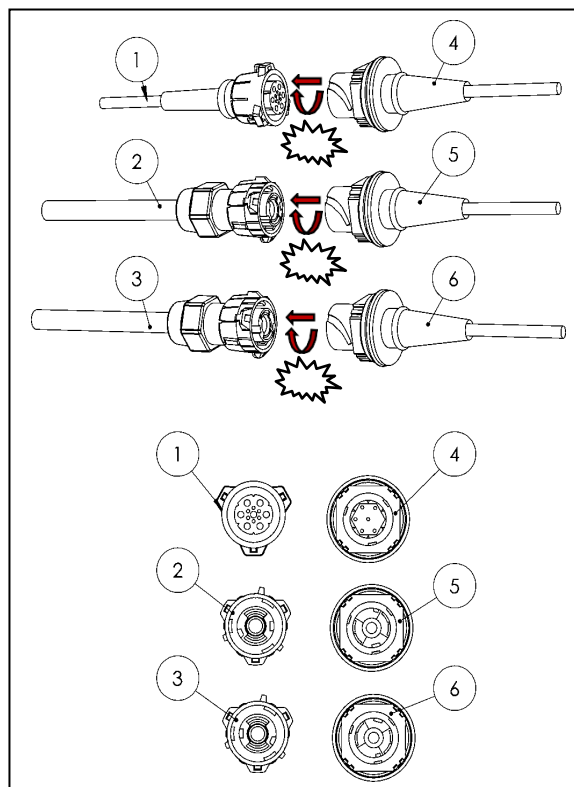

Figure 50
- Connect the power cable and the cable for the cabin switch unit to the sockets provided (see Fig. 50).